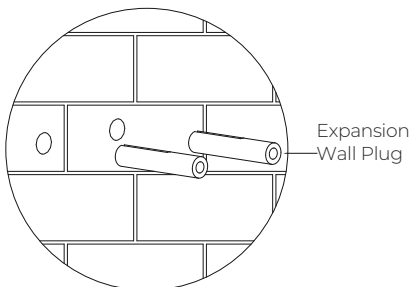

Fig. 3-14-3
- Hammer the expansion wall plug into the wall until it's flush with the wall. See fig. 3-14-3.